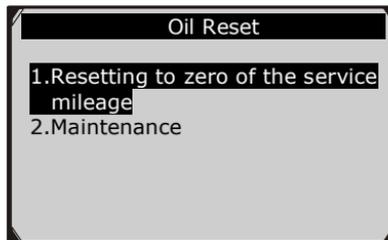

Figure 9-11
- ✓ In the **Oil Reset** menu (Figure 9-11), select **Maintenance** function and press **OK** button. The screen will display the preset maintenance information of the vehicle. The information items vary with different vehicles.